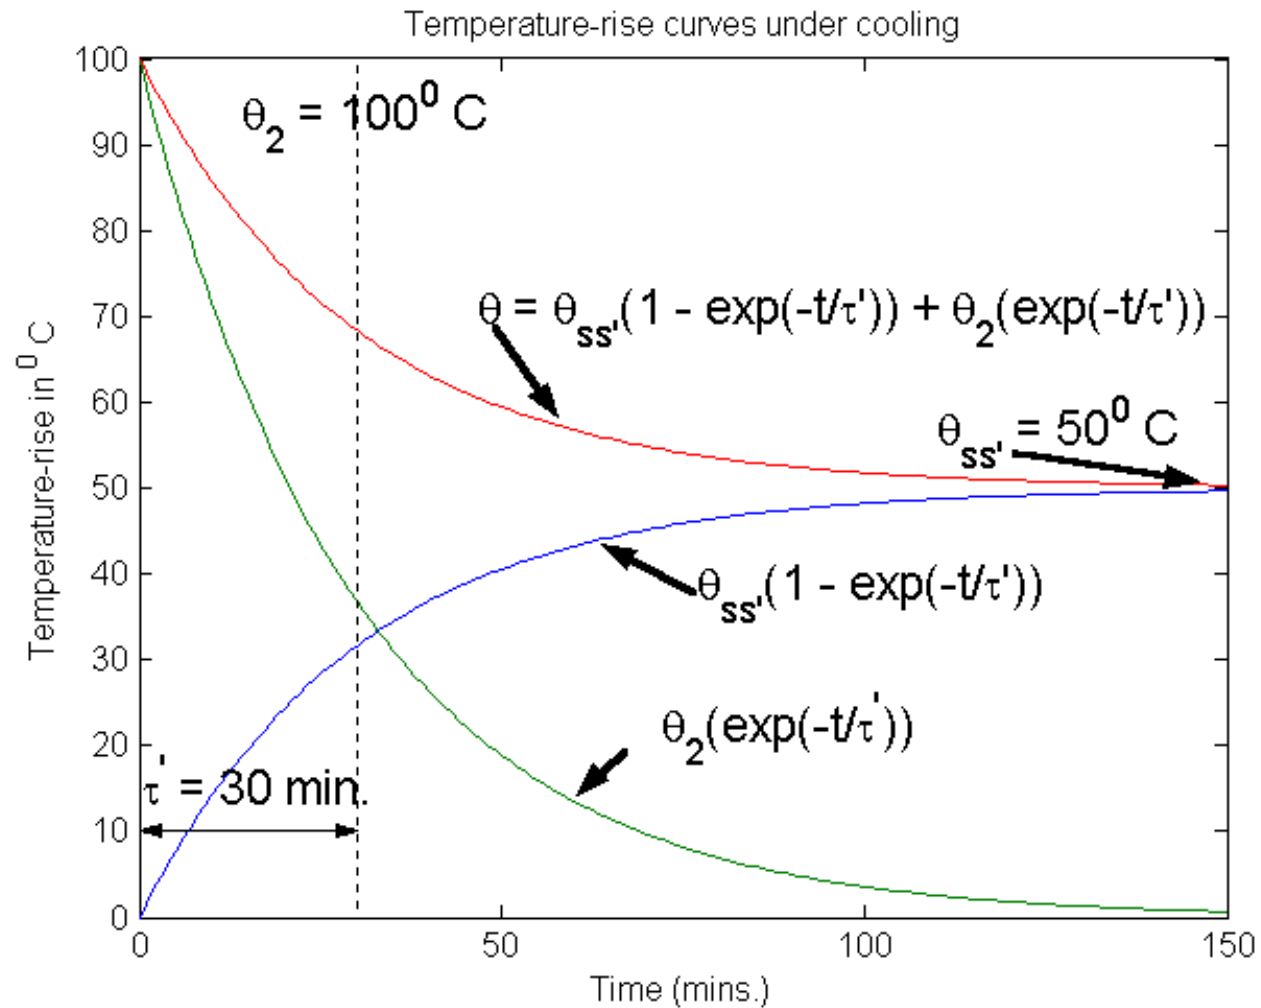

Figure 2.3: Cooling curve of an electric motor when the load is reduced but not equal to zero.
- Cooling curve shown in Fig. 2.3 can be considered as the sum of two curves: